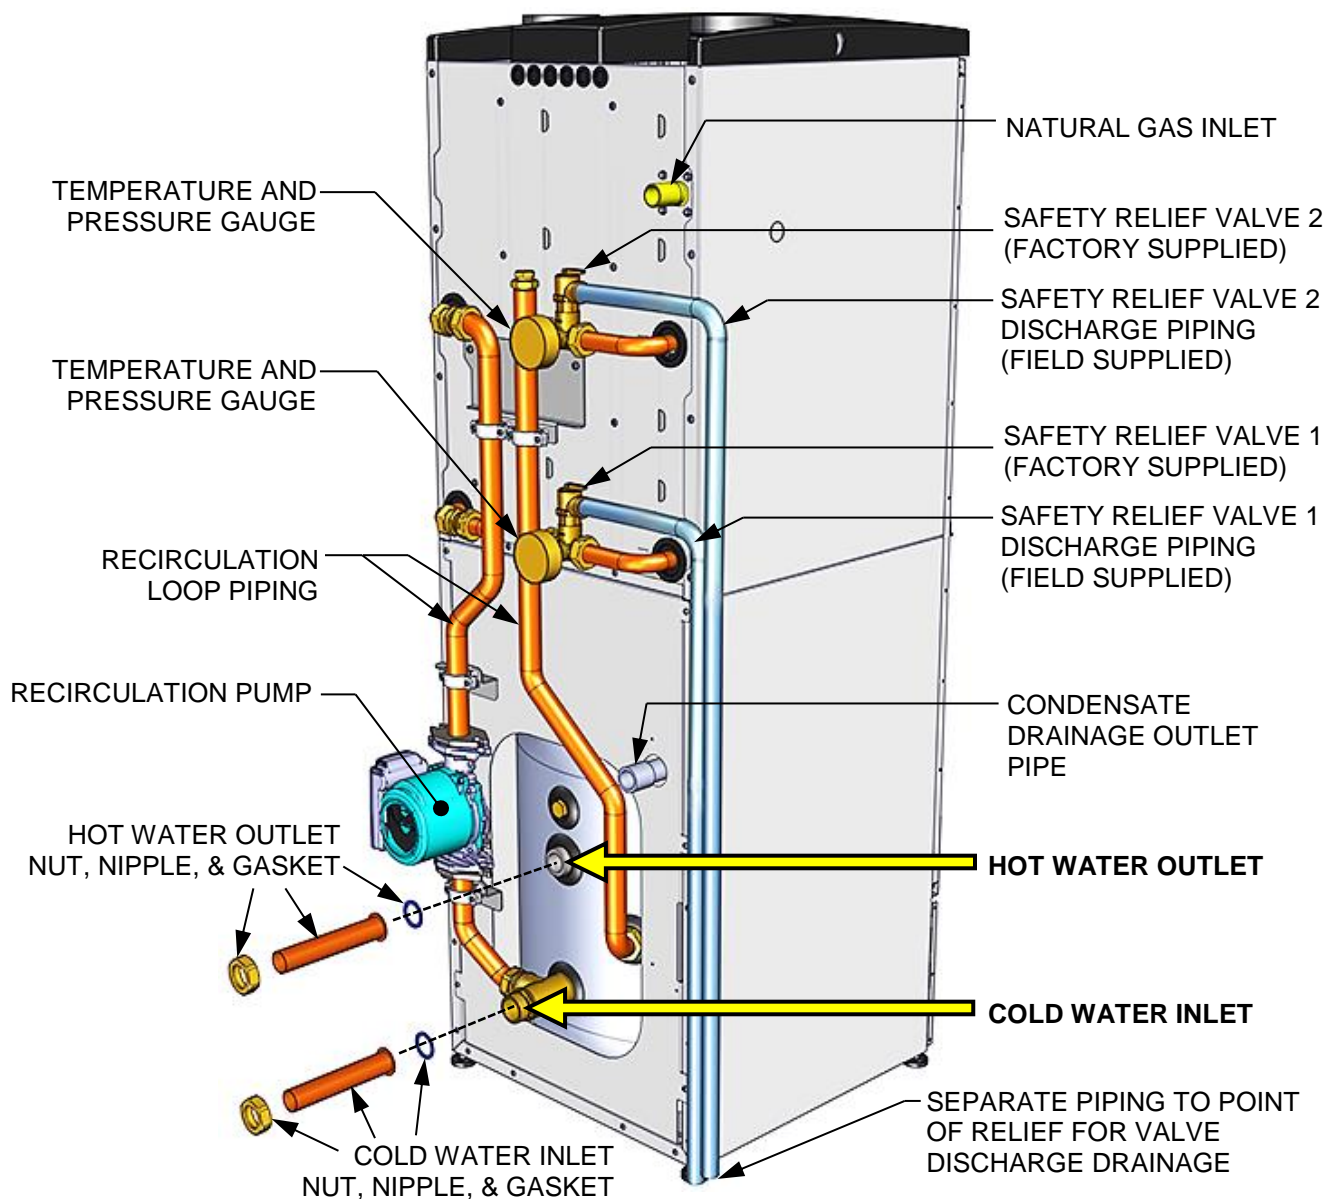

Figure 4-1: Inlets, Outlets, Safety Relief Valves, and Discharge Piping
- Connect the cold water supply to the Cold Water Inlet of the water heater (Figure 4-1).
- Connect the hot water supply to the Hot Water Outlet of the water heater (Figure 4-1).
Pipe the discharge of the safety relief valve(s) (Figure 4-1) to a suitable drain to prevent injury in the event of pressure relief. Each relief valve must have its own discharge piping, be piped to within 18" of the ground, and not be combined with any other piping all the way to the point of discharge into a drain. Provide piping that is the same size as the safety relief valve outlet.